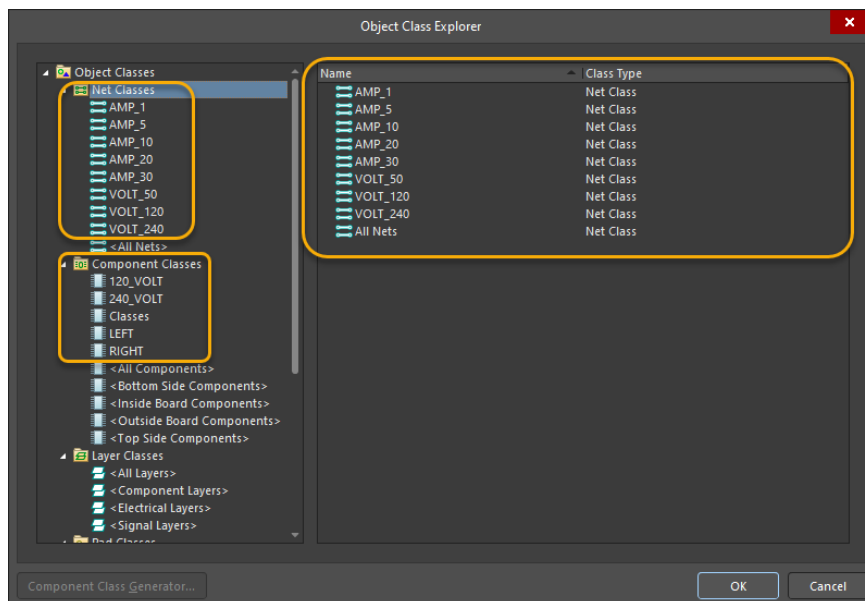

Figure 11. Class Explorer
47. Now that the PCB has been updated from the schematic, open the *Object Class Explorer* dialog by accessing the command **Design » Classes**. See Figure 11.